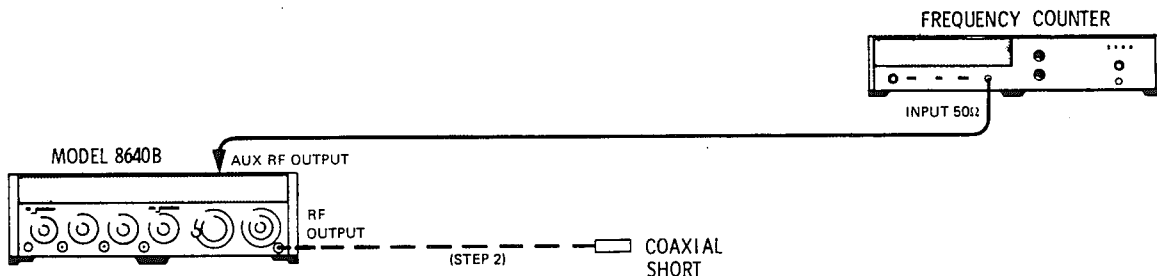

Figure 4-4. Frequency Stability vs Load, Level, and Mode Test Setup
1. Connect equipment as shown in Figure 4-4 after setting Signal Generator's controls as follows: